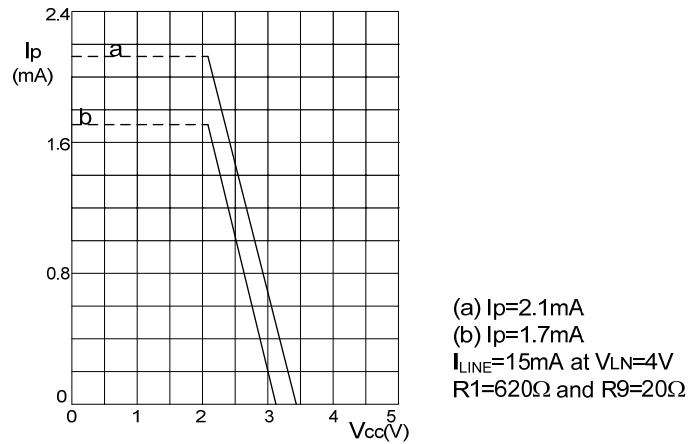

Fig.9 Typical current  $I_p$  available from  $V_{CC}$  peripheral circuitry with  $V_{CC} \geq 2.2V$ .
At line currents below 9mA the internal reference voltage is automatically adjusted to a lower value(typically 1.6V at 1mA) This means that more sets can be operated in parallel with DC line voltages (excluding the polarity guard) down to an absolute minimum voltage of 1.6V. With line currents below 9mA the circuit has limited sending and receiving levels. The internal reference voltage can be adjusted by means of an external resistor(RVA). This resistor when connected between LN and REG will decrease the internal reference voltage and when connected between REG and SLPE will increase the internal reference voltage. Current(IP) available from VCC for peripheral circuits depends on the external components used. Fig.9 shows this current for VCC > 2.2V. If MUTE of TEA1062N is LOW (TEA1062AN is HIGH) when the receiving amplifier is driven the available current is further reduced. Current availability can be increased by connecting the supply IC(1081) in parallel with R1, as shown in Fig.16, or, by increasing the DC line voltage by means of an external resistor(RVA) connected between REG and SLPE.